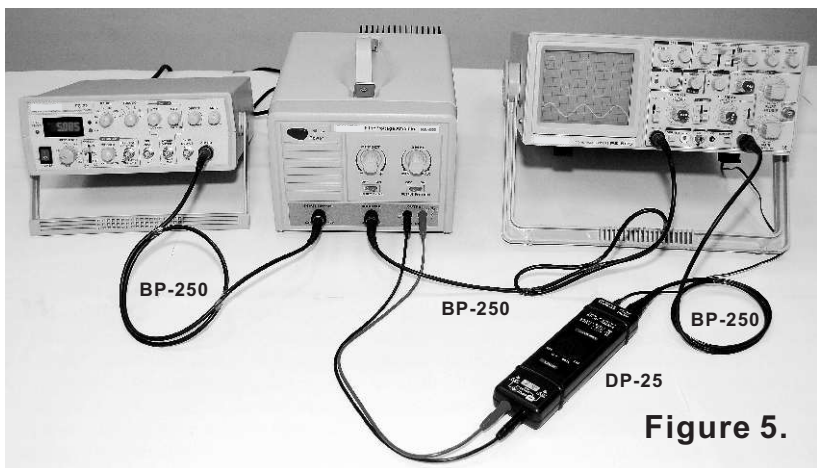

Figure 5.
5.3 Use Function Generator as input, to observe the HA-400 Monitor and Output, and the real output situation from oscilloscope. (Figure 5.)